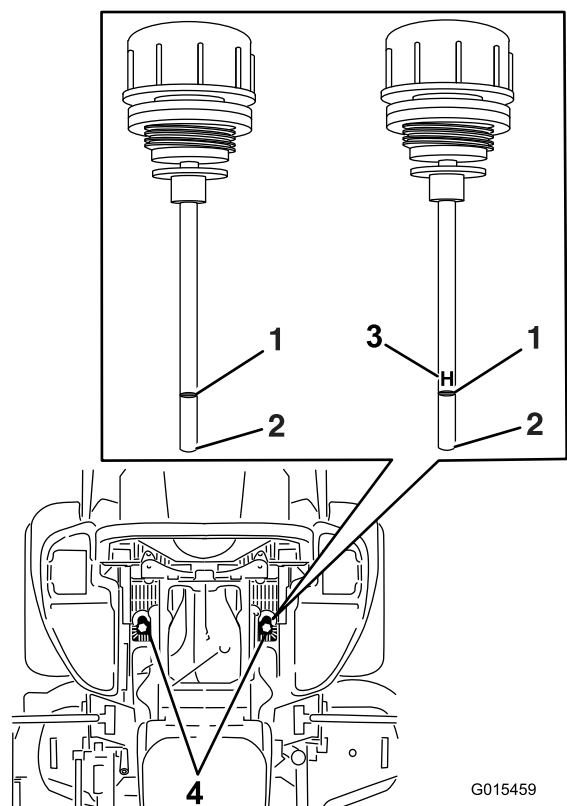

Figure 87
6. Clean the area around the dipsticks of hydraulic-system reservoirs (Figure 87).
7. Remove 1 dipstick from the hydraulic reservoir (Figure 87).
9. Remove the dipstick and look at the end (Figure 87).